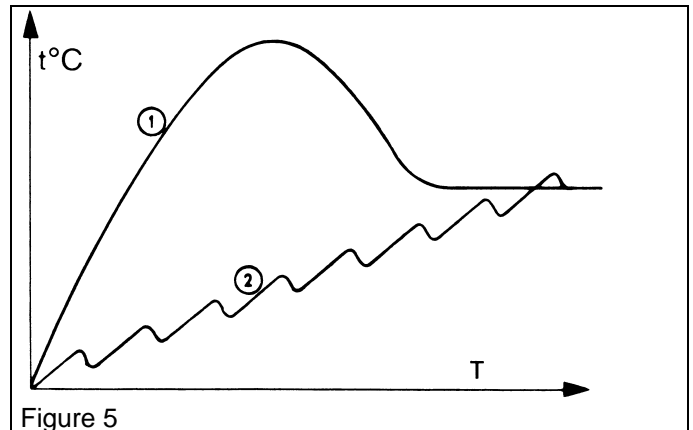

Figure 5
First of all, it is recommended to locate the temperature sensors, as much as possible, at equal distance from the surrounding heaters: this will avoid (see also Figure 5) excessive heating (high thermal inertia due to an excessive distance between sensor and heater - ①) or high-frequency heating cycles (too rapid response caused by a too short distance between sensor and heater - ②).